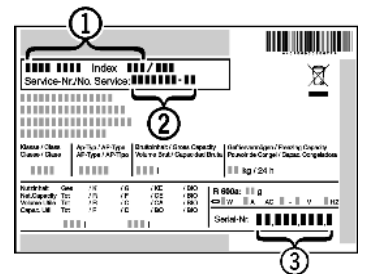

Fig. 59
- ▶ Read off the appliance name *Fig. 59 (1)*, service no. *Fig. 59 (2)* and serial no. *Fig. 59 (3)* from the model plate. The model plate can be found on the inside of the appliance on the left.